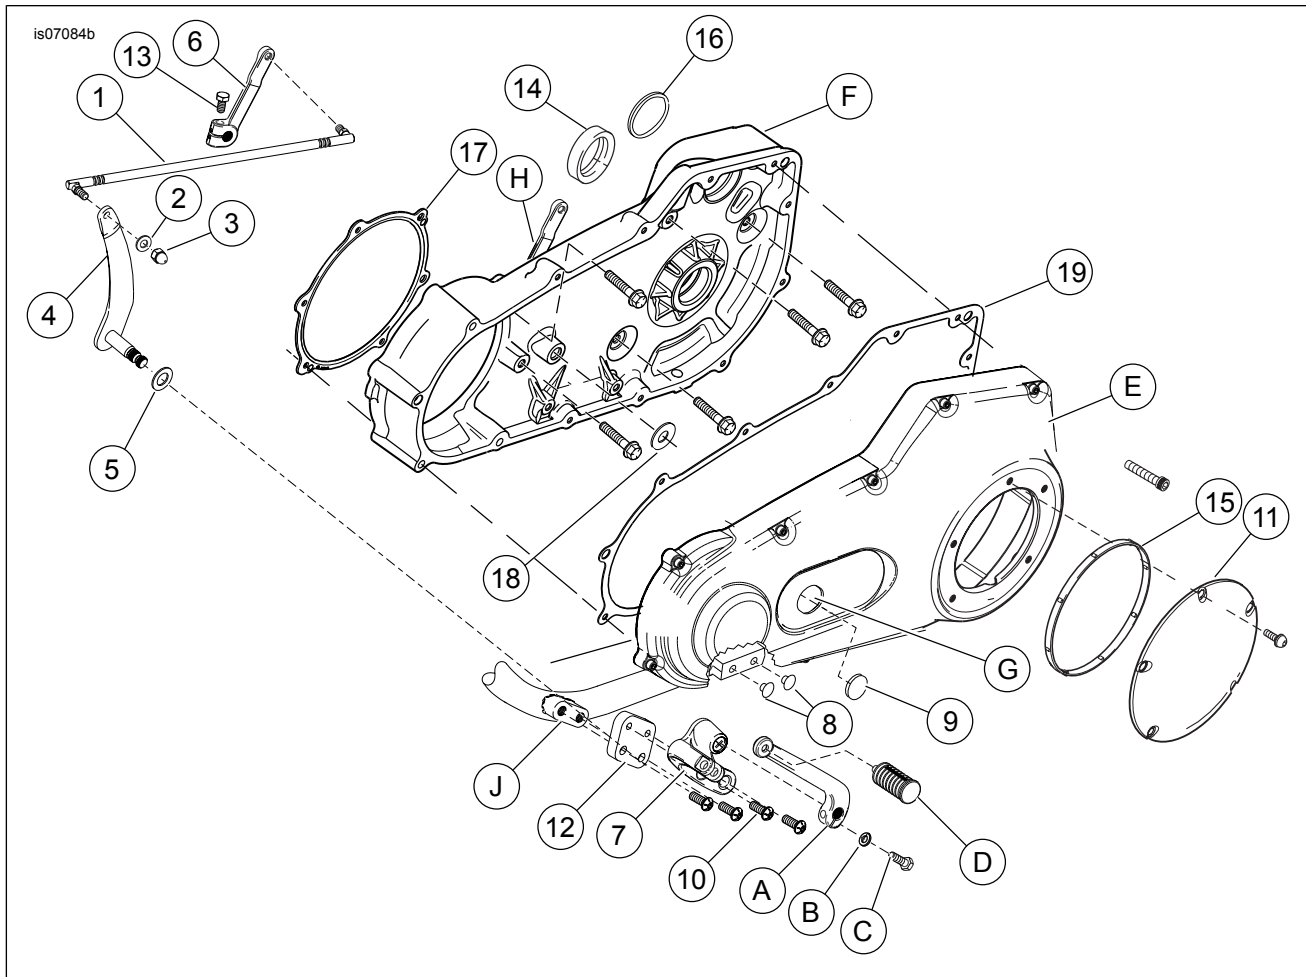

Figure 4. Service Parts: Reduced Reach Forward Foot Control Kit
See Figure 4 and Table 1 and Figure 5 and Table 2.
2. See Figure 4. Disconnect shift linkage from the shifter shaft and lever (4).
4. From the kit, press hole plugs (8) into the screw holes on the frame where the stock footrest assembly was mounted.
5. Remove plugs from forward control frame mount (J) and discard.
6. Remove the foot shift lever (A) with shifter peg (D). Save for future use. If the black kit is being installed, transfer shifter peg (D) to the **new** foot shift lever and discard the original.
See Figure 4. Before removing the transmission shifter lever (H), it is necessary to mark the correct orientation of the lever.
See Figure 4. The reduced reach plate (12) is installed between the shifter bracket and frame.
- Loosen lever bolt (5) and remove the old lever. From the kit, install the **new** gear shifter lever ( Figure 4, Item 6) onto the splined shaft in the same orientation as the old shifter lever.
- Push hole plugs ( Figure 4, Item 8) into the screw holes on the frame where the stock brake pedal assembly was mounted.
- Position the reduced reach plate on the frame with the tapped hole toward the front and the counter bores facing out. Secure using screw (10) in the lower hole and align the upper hole with the threaded hole in the frame. Tighten to 41–47 N·m (30–35 ft-lbs).
7. Fasten the brake pedal bracket (1) to the frame and reduced reach plate using screws (23 and 10). Tighten the screws to 41–47 N·m (30–35 ft-lbs).
8. Coat the **new** brake pedal pivot shaft (2) with Loctite Anti-Seize.
9. Fasten the new brake pedal pivot shaft (2), brake pedal and footrest mount clevis (5) to the brake pedal bracket (1) using the long Torx screw (6). Tighten the screw to 44–47 N·m (32–35 ft-lbs).
10. Install the jam nut (13) all the way onto the new brake rod (12).
12. Connect the brake rod (12) to the brake pedal with clevis pin (8), washer (9) and cotter pin (7).